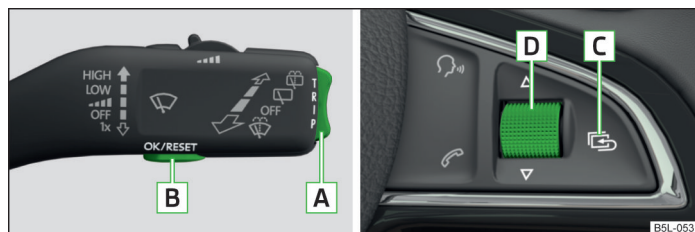

Fig. 7 Buttons/dial: on the operating lever / on the multifunction steering wheel
Some functions of the information system can be operated using the buttons on the multifunction steering wheel » Fig. 7.
After pressing Button  » Fig. 7 on page 23, the most recently displayed data is shown.
- Press and hold button **B** or adjustment wheel **D** » Fig. 7 on page 23.